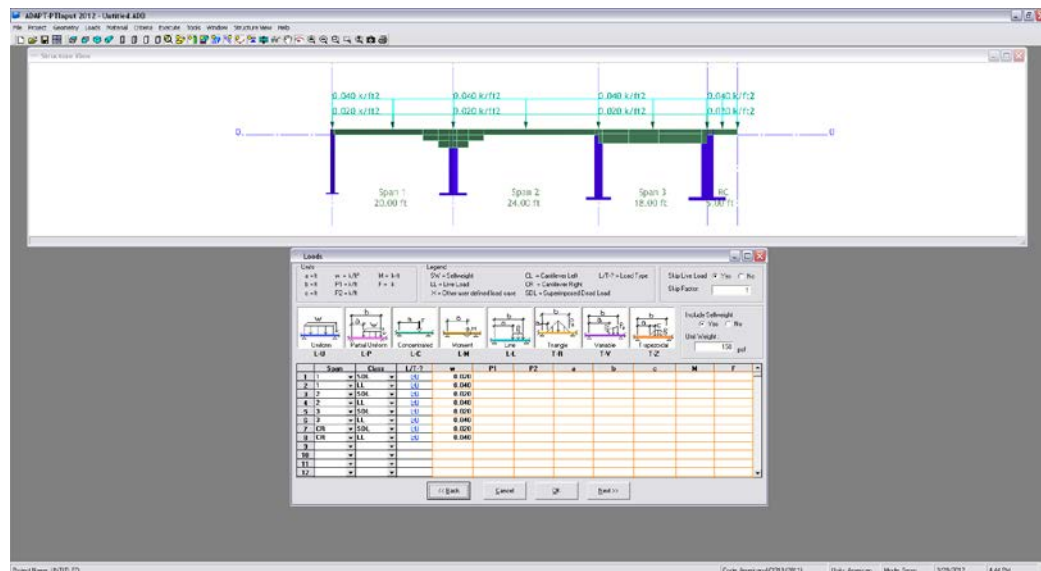

FIGURE 5.3-17
5.3.3.1 Edit the loading information (Fig. 5.3-17)
If you entered span as “all”, click **Back** and go back to the loading screen. You can see that all the loads are copied to the individual spans as in **Figure 5.3-17**.